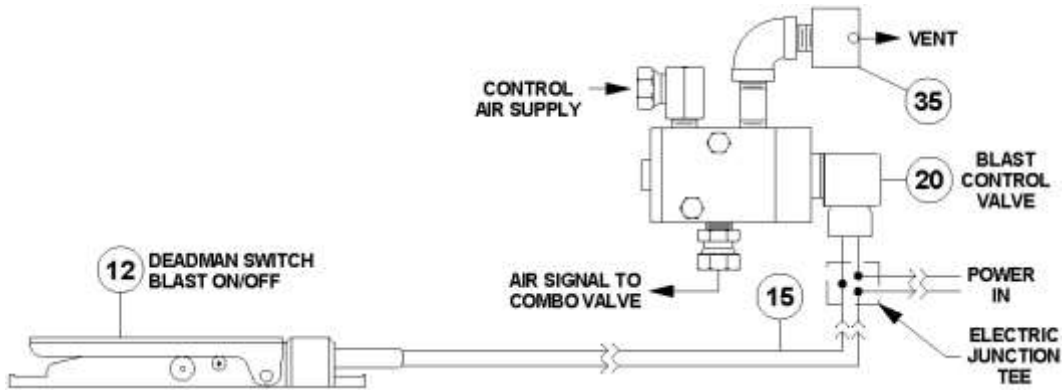
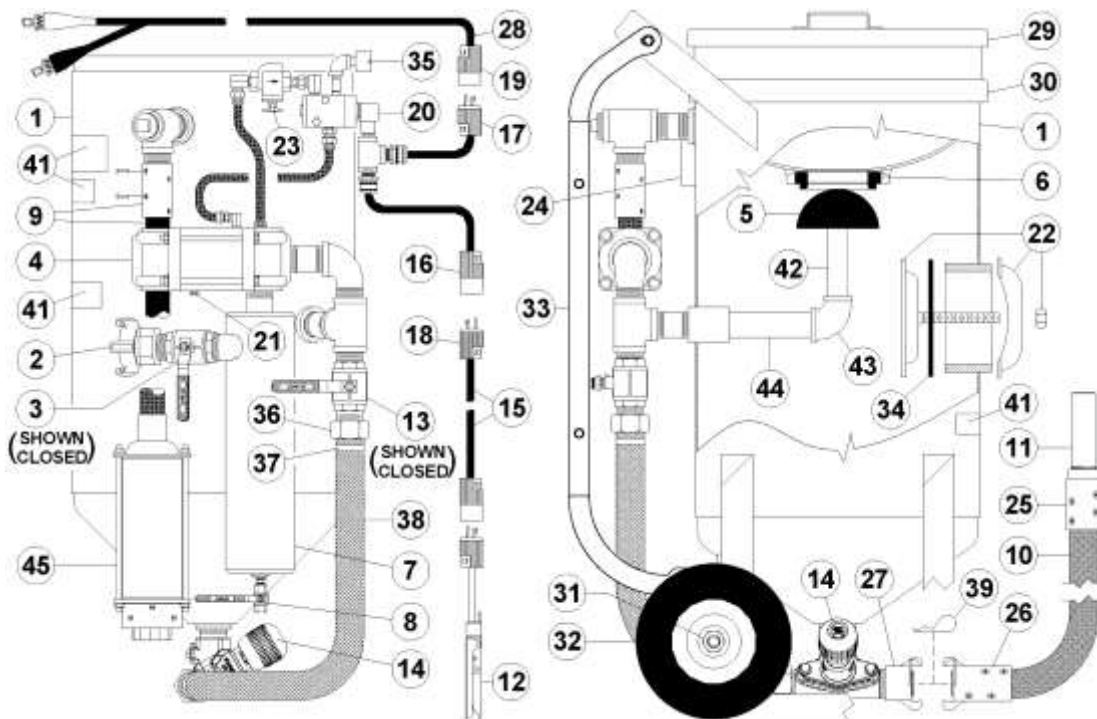

Figure 5.4 – MV3 Valve Electric Deadman Blast Control System
Figure 5.5 – MV3 Valve Abrasive Blaster with electric blast controls
5.8.2. Electric Deadman System: When the electric deadman lever (#12) is pressed down it closes the electric circuit and supplies electric current to the control valve (#20). The control valve opens and sends air signals to the ComboValve® (#4) to begin blasting. When the deadman lever is released, the electric circuit is turned off which closes the control valve. The signal air vents from the breather (#35) and the ComboValve closes to stop blasting. See Figure 5.4, Figure 5.5, and the drawing in Section 9.3.
Figure 5.5 shows a MV3 Valve abrasive blaster with the electric deadman system. The popup valve, MV3 Valve, and ComboValve operate the same as a blaster with a pneumatic blast control system. The difference is that the electric control system uses an electric control valve (#20) operated by the electric deadman switch as detailed in Section 5.8.2.